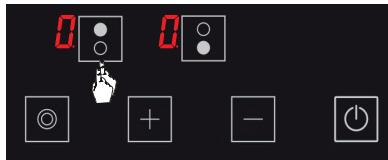

Figure 6
2. Press the relevant hob selection key. The **H** icon shall be displayed in the relevant hob when you touch for the first time. (See Fig. 6)